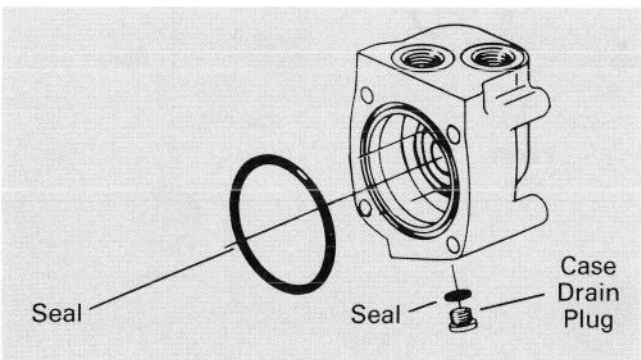

Figure 92
5. Carefully remove 3" diameter seal from valve housing (Fig. 92).
6. Remove case drain plug — with seal, from valve housing (Fig. 92).